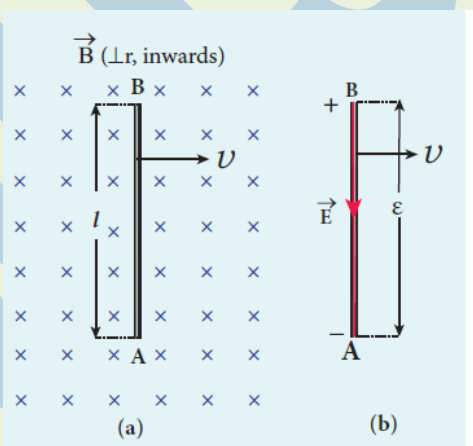

Figure 4.9 Motional emf from Lorentz force
- Consider a straight conducting rod  $AB$  of length  $l$  in a uniform magnetic field  $\vec{B}$  which is directed perpendicularly into the plane of the paper as shown in Figure 4.9(a).
- The action of this Lorentz force is to accumulate the free electrons at the end A. This accumulation of free electrons produces a potential difference across the rod which in turn establishes an electric field  $\vec{E}$  directed along BA (Figure 4.9(b)).